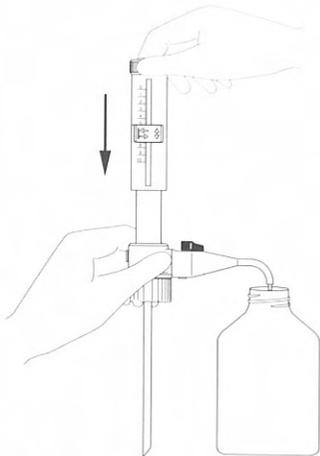

Fig. 9
- Hold the instrument so that the discharge tube is over the bottle opening and dispense the remaining reagent back into the bottle (Fig. 9).